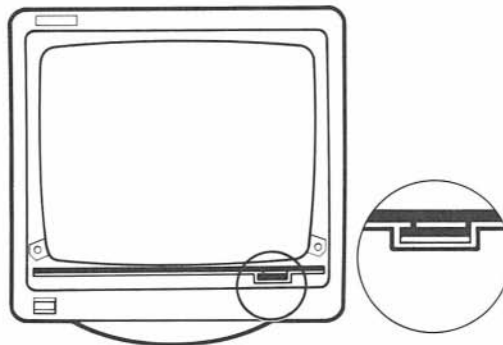

Figure 10-2. Locating socket on monitor.
3. Locate the connector socket on your monitor (on the right at the bottom of the display tube). If there is a plug in the socket, remove it (Figure 10-2).